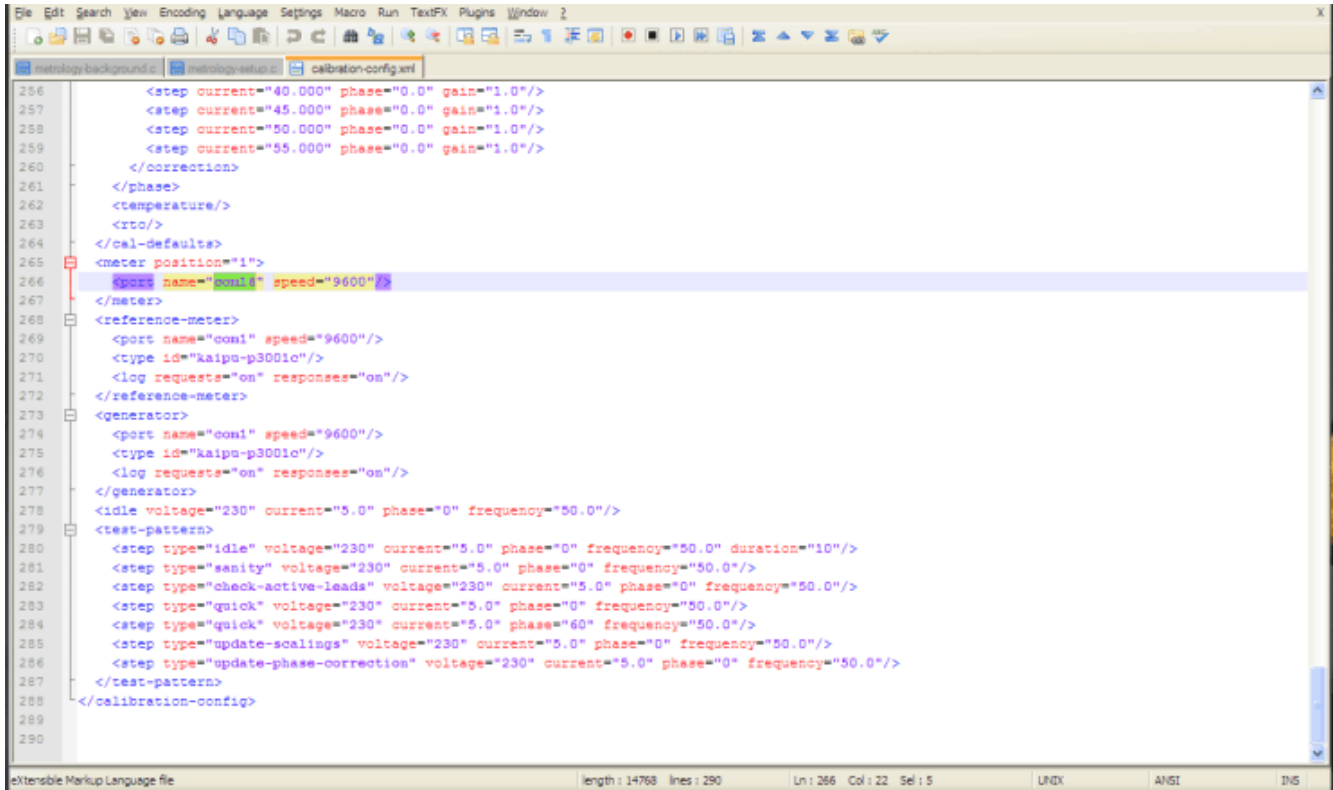

Figure 5-3. Editing “calibration-config.xml”
- Open “calibration-config.xml” in the folder “calibrator-runtime” with a text editor or XML editor. Go to the line shown in Figure 5-3 and put in the COM port number in and save the file.